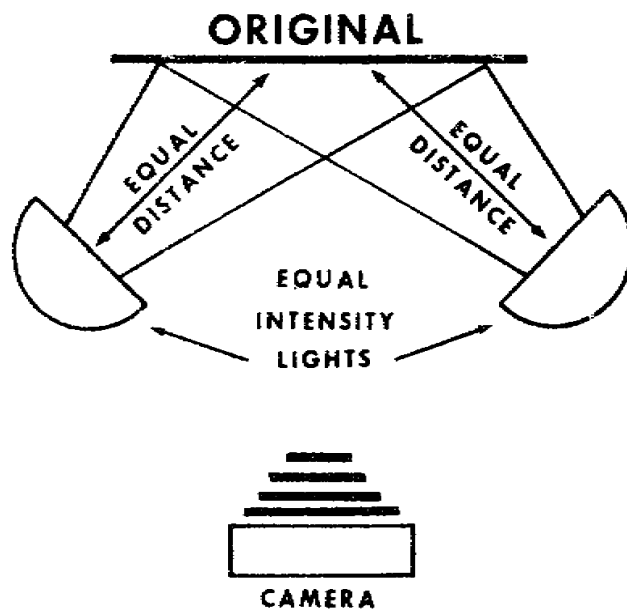
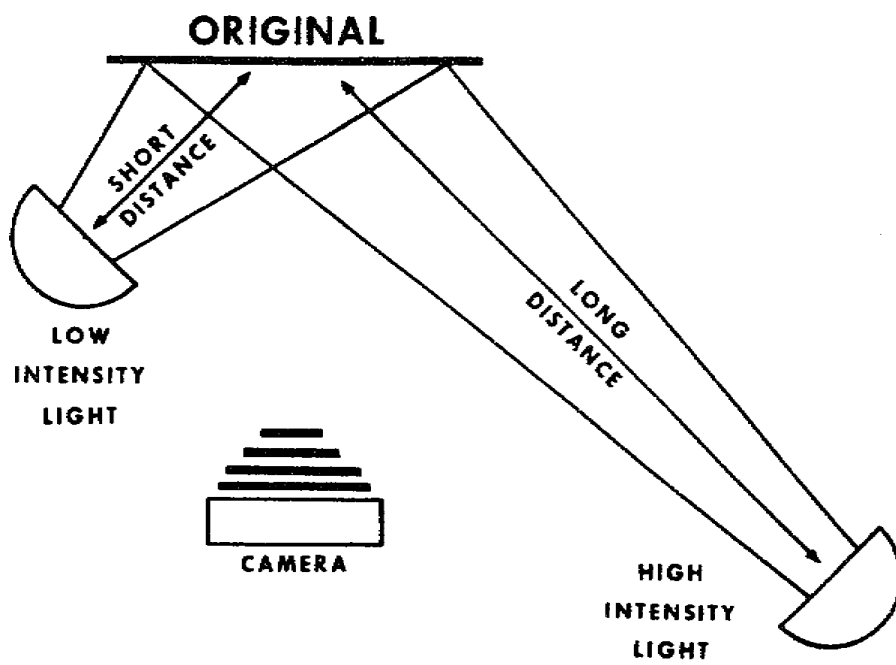

Figure 3-6. Equal intensity lights
Figure 3-7. Unequal intensity lights
f. Place lights equal distances from the original if they are of equal intensity (fig 3-6). When the intensity is not equal, place the brighter light farther away so the illumination of the original from each light is the same (fig 3-7). Illumination decreases with the square of the distance, thus you can obtain the same illumination of the original by placing a light that is four times brighter, twice the distance away.